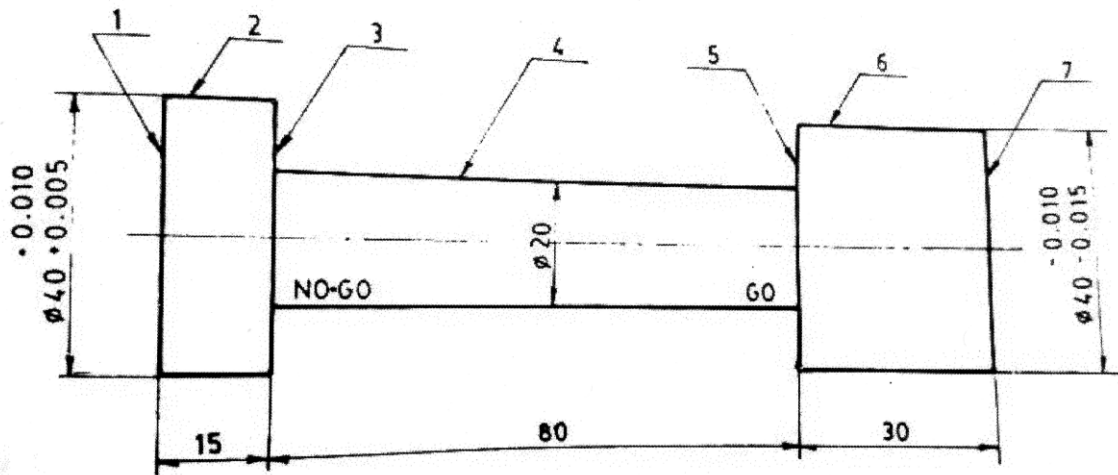

Fig 2. Go-no-Go gauge
3. Elevation of a Go-no-go gauge is shown in Fig.2. The surfaces are identified by the numerals 1 to 7 and the surface roughness values for these surfaces are given below in a tabular form. Draw the given figure and indicate the surface roughness values using grade numbers as per BIS.